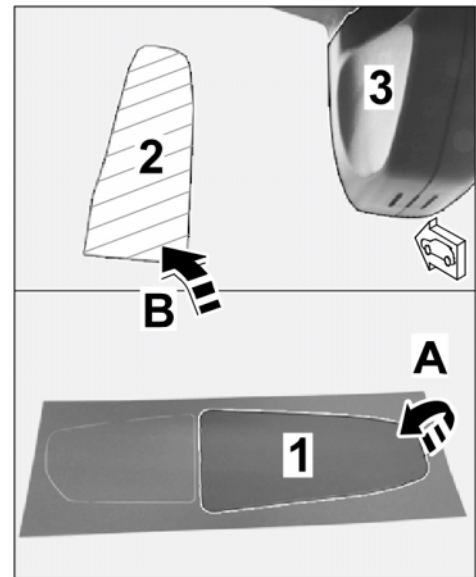

Figure 9
2.2.1 Pull 3M privacy film off the backing sheet. ⇒ *Figure 9-A-*
2.2.2 Position 3M privacy film on the marked bonding surface on the windshield. ⇒ *Figure 9-B-*